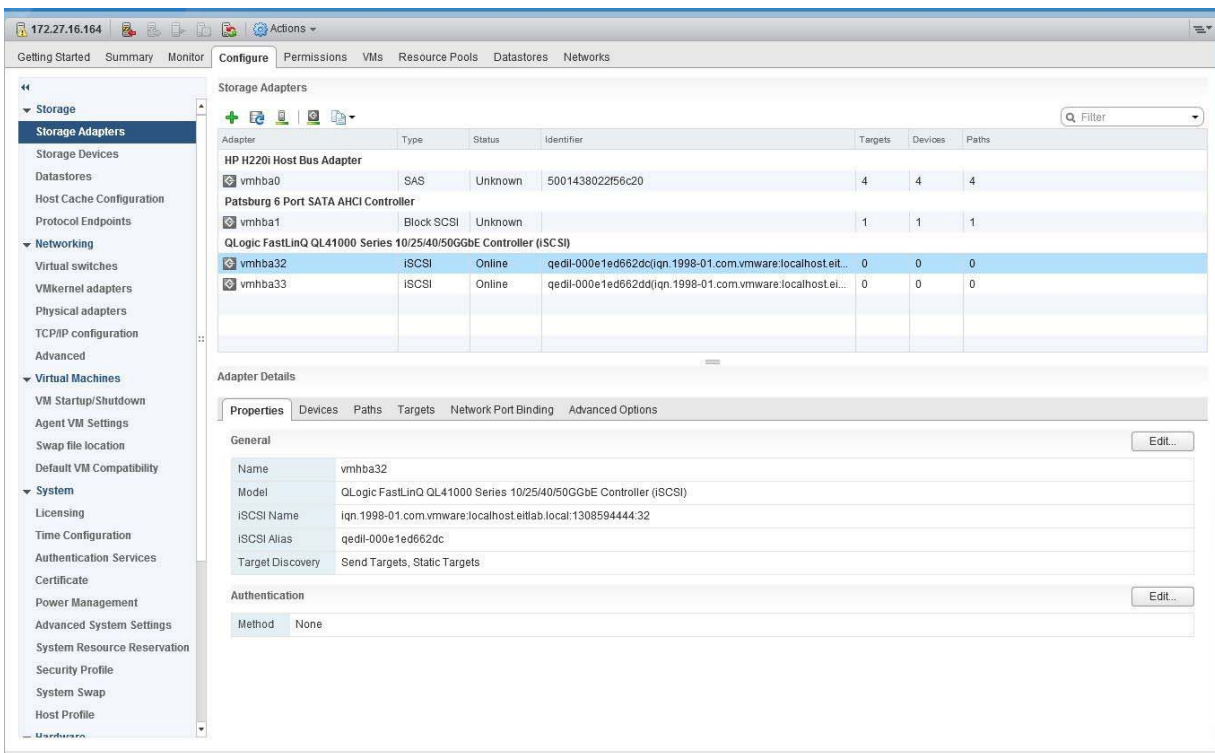

Figure 3-3. Storage Adapters
- a. In the tree pane on the left under **Storage**, click **Storage Adapters** as shown in Figure 3-3.